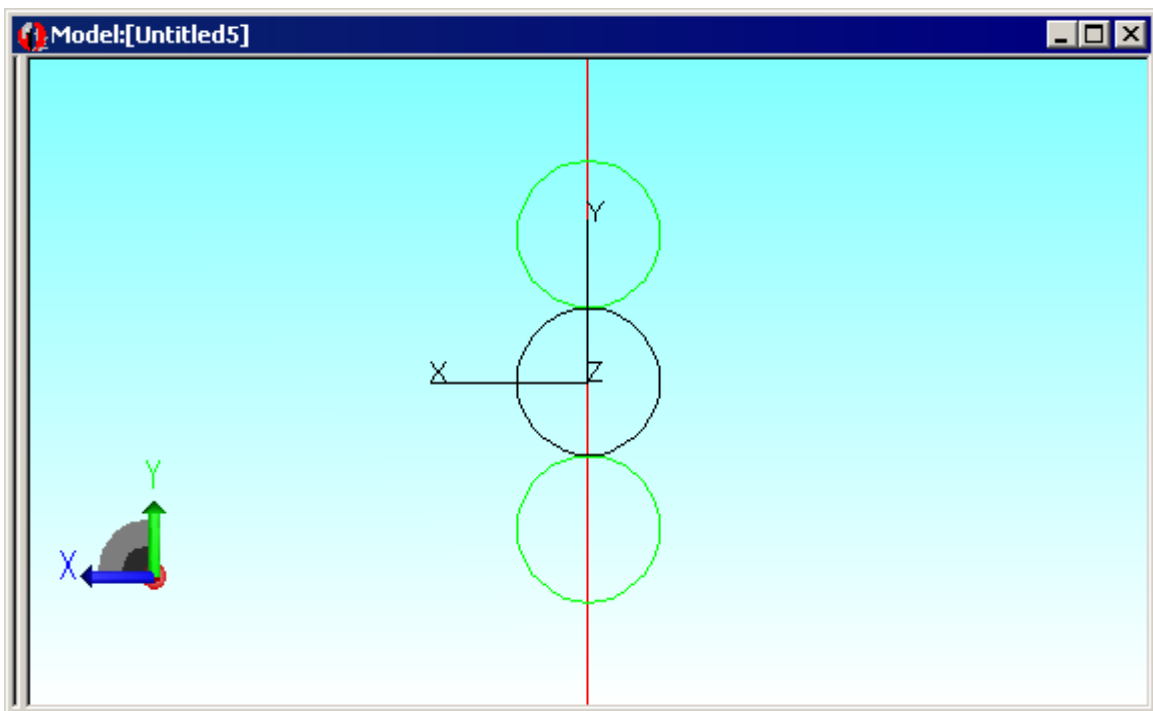

FIGURE 9.43 - XY Profile of Linear Lens Array.
- 13. If the bottom lens is not highlighted, select the bottom lens. See Figure 9.43.